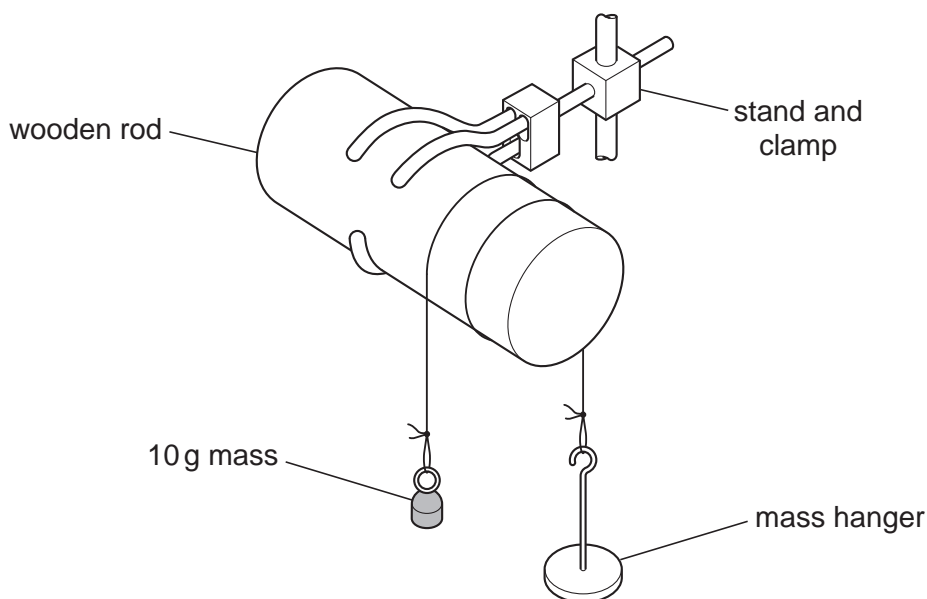

Fig. 2.1
- (c) Assemble the apparatus as shown in Fig. 2.1.